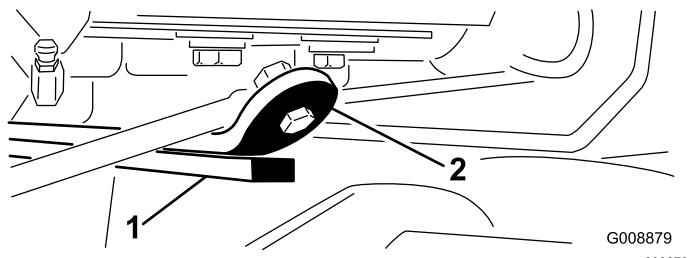

Figure 14
3. Start the engine, raise the cutting units, and check to make sure that the clearance between the wear strap on the top of the rear cutting unit wear bar and the bumper strap is 0.02 to 0.10 inches (0.51 to 2.54 mm) (Figure 14).